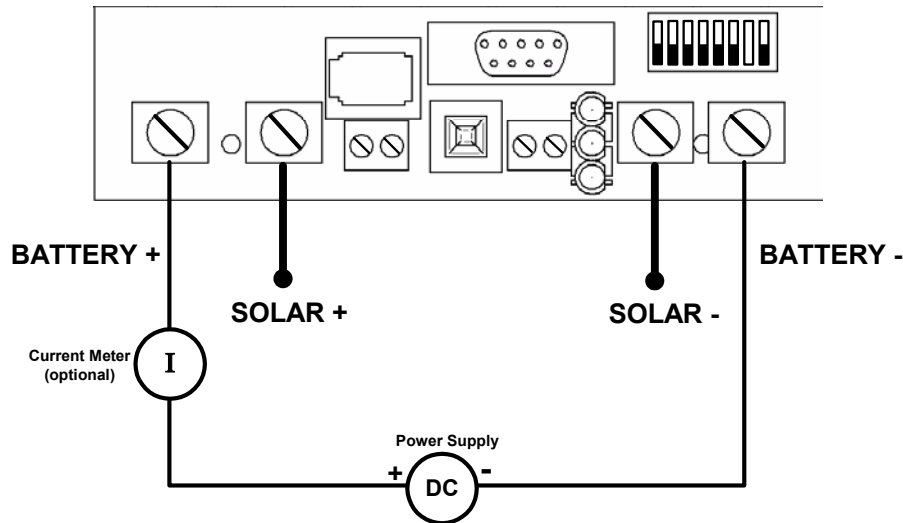

figure 1.
1. Set DIP switch position #1-6 & 8 to the “OFF” position as shown in figure 1.